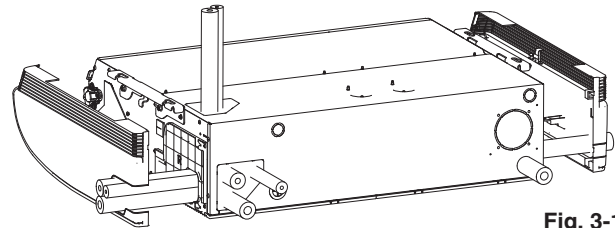

Fig. 3-18
- \* If the drain hose is routed through the left side, refer to Fig. 3-18, and follow the procedure above to install the hose. Reattach the rubber stopper removed earlier onto the right side.